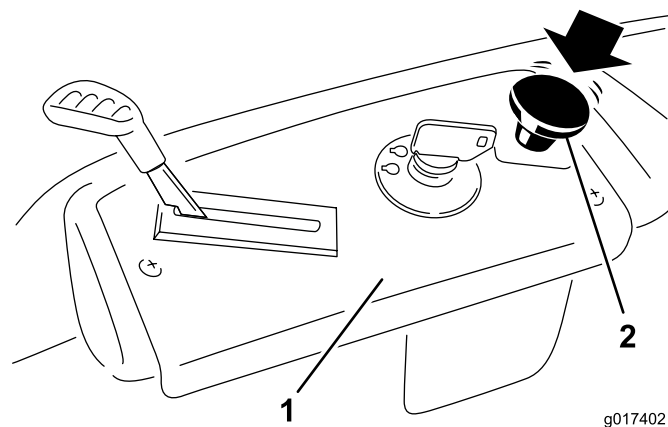

Figure 15
Push down on the blade control switch to move it to the Off position and disengage the blades (Figure 15).
1. Disengage the blades by moving the blade control switch to Off (Figure 15).